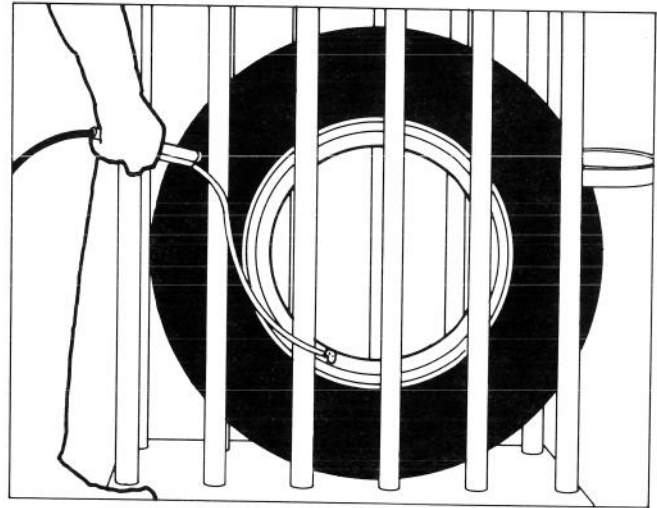

Figure 118
ALWAYS inflate tires in a safety cage, enclosed on all sides, including top or use a portable safety device. Use extension hose with gauge and clip-on chuck so that operator may stand aside during inflation (Fig. 118).
8. Stand tire inside safety cage, install clip-on chuck and insure inflation hose is long enough to allow you to stand to the side of tire (Fig. 118).
6. Place tire assembly in safety cage (Fig. 118), stand to one side and inflate to maximum of ten pounds. Check retainer ring placement by lightly tapping it with a mallet around its' complete circumference. Check beads for proper seating. Completely deflate tire by removing valve core to prevent tube from buckling. Re-install valve core and inflate to recommended pressure.